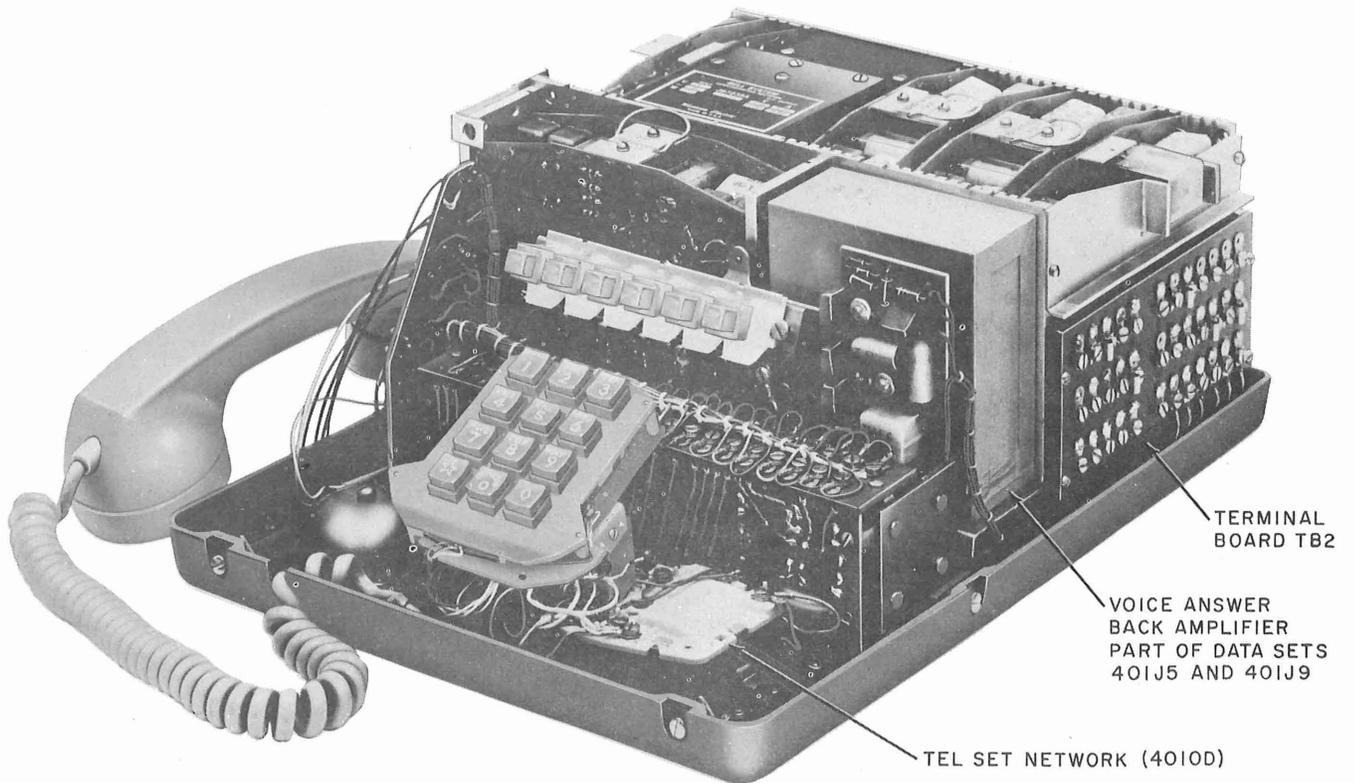

Fig. 7—Data Set 401J5 or 401J9—Inside View
2.13 An inside view of Data Set 401J5 or 401J9 is shown in Fig. 7. When the voice answer-back amplifier is removed, Data Set 401J5 becomes Data Set 401J4 and Data Set 401J9 becomes Data Set 401J8.